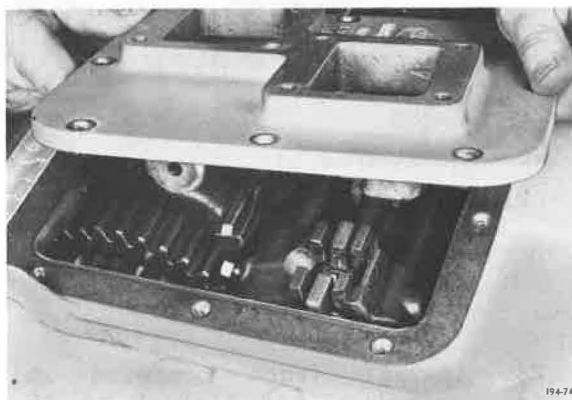

Figure 416. Installing Cover
34. Install main box top cover, and tighten capscrews to 24 to 30 lb. ft. torque. Refer to Torque and Tolerance Table, Item 3. See Figure 416.